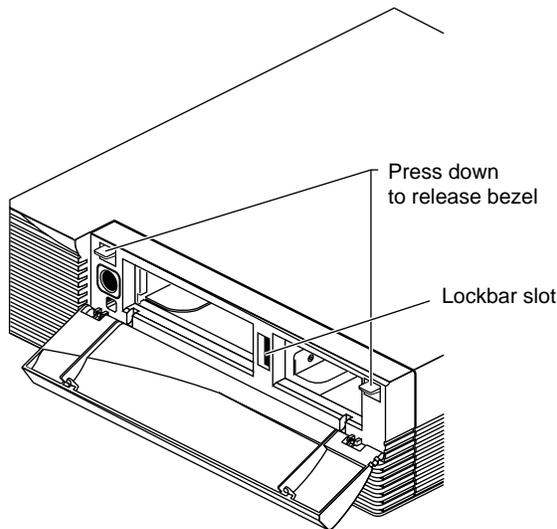

Figure 1-5 Releasing the Bezel
- Press down on the tabs on each side of the bezel, as shown in Figure 1-5.